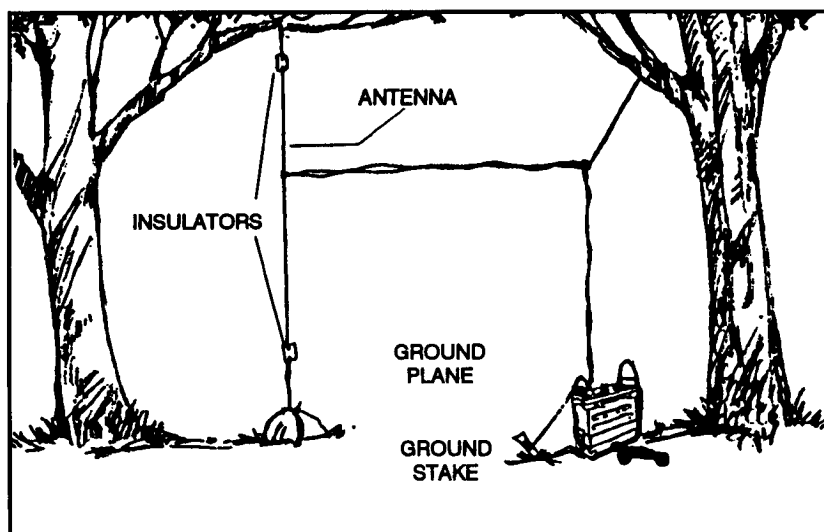

Figure 7-14. Expedient patrol antenna.
(2) **Expedient patrol antenna.** This is another antenna that is easy to carry and quick to set up (Figure 7-14, page 7-20). The two radiating wires are cut to the length shown in Table 7-2 for the operating frequency. For the best results, the lead-in should extend at least 1.8 meters (6 feet) at right angles (plus or minus 30 degrees) to the antenna section before dropping to the radio set. The easiest way to set up this antenna is to measure the length of the radiating elements from one end of the lead-in (WD-1) and tie a knot at that point. The two wires are separated: one is lifted vertically by a rope and insulator;